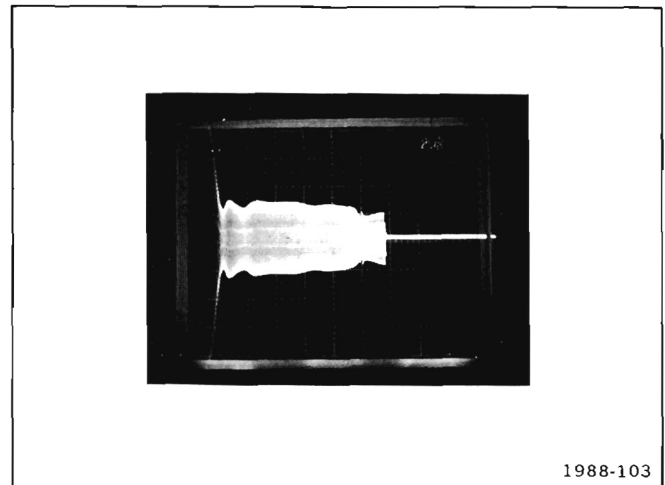

Figure 4-5. Current waveform at T1230 showing burst operation at line voltage of about 60 V.
4. If the 7834 continues in the pulse mode or to open the line fuse, check the current waveform through T1230. To do this, first repeat part 1 of this step. Then connect a current probe from the test oscilloscope to the gray lead that passes through toroid transformer T1230. Set the test oscilloscope for a vertical deflection factor of about 1 volt/division and a horizontal sweep rate of 2 milliseconds/division. Connect the 7834 power-cord plug to the variable autotransformer which is set for 0 volt. Turn the 7834 on and slowly increase the variable autotransformer's output to about 60 volts. Check for a burst waveform on the test oscilloscope (similar to that shown in Fig. 4-5).